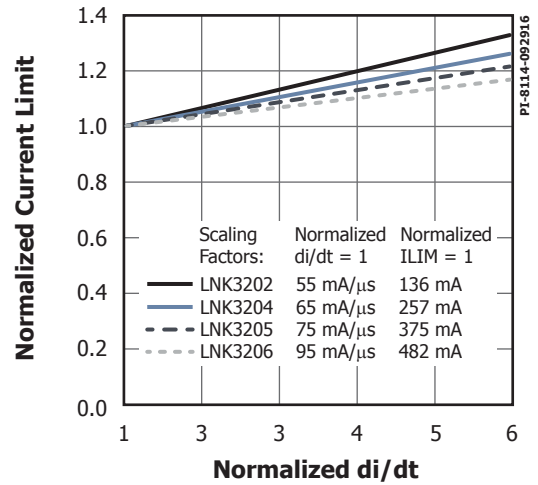

Figure 21. Default Current Limit vs.  $di/dt$ .
- D. For current limit at other di/dt values, refer to Figures 21 and 22.